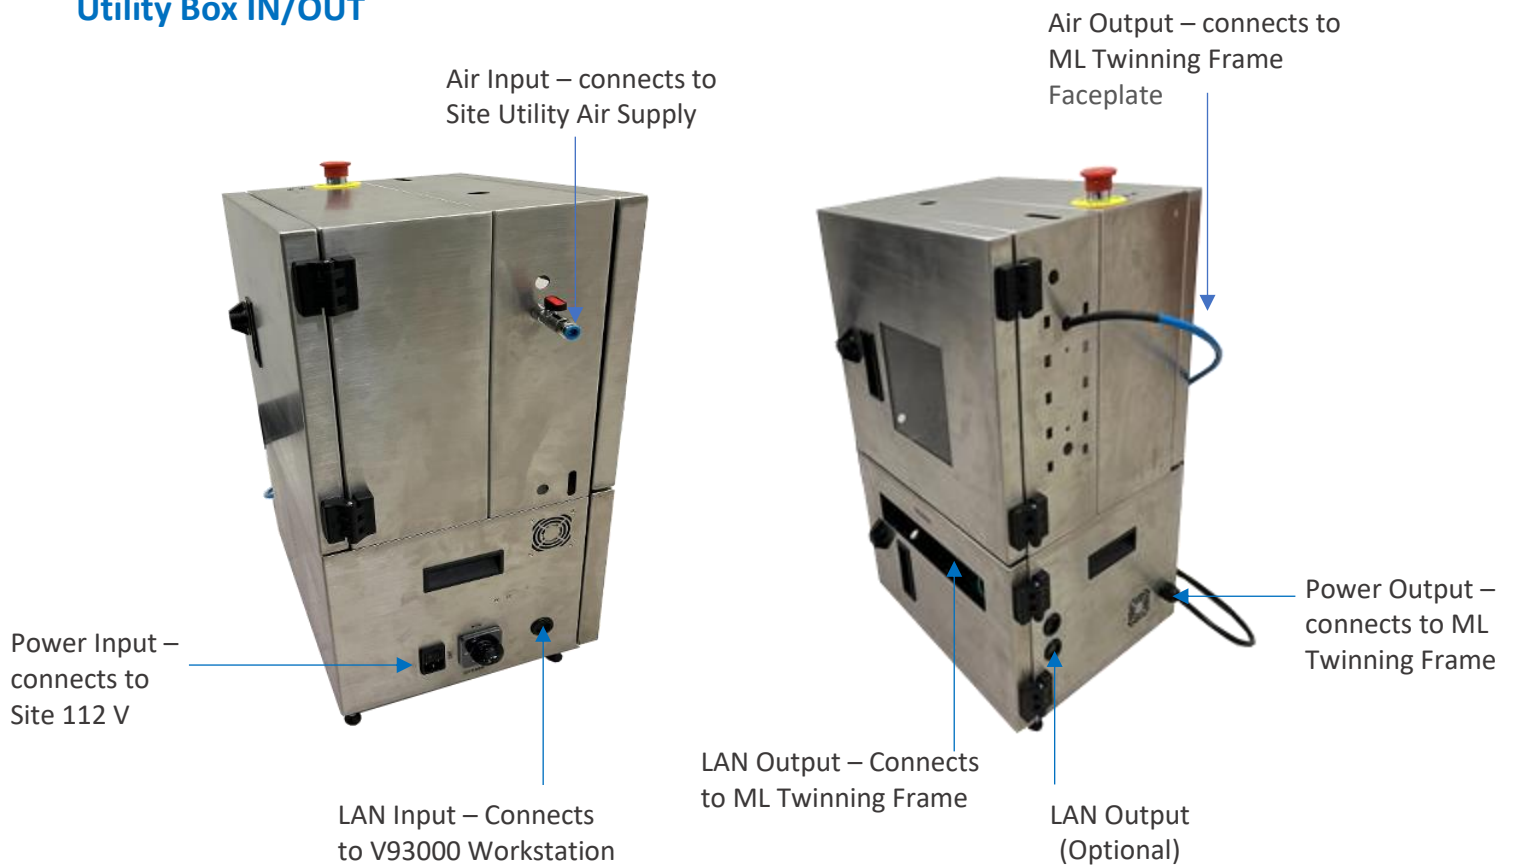

Figure 6: INPUTS / OUTPUTS
Figure 6: INPUTs / OUTPUTs .....	6
- a. See Figure 6: INPUTs / OUTPUTs